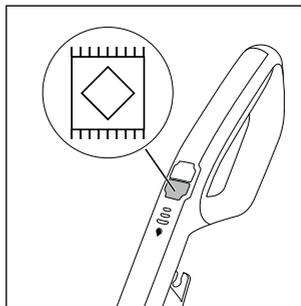

Fig. 17
- ◆ Press the carpet switch  **13** to switch the appliance on (see fig. 17). The LED on the carpet switch  **13** lights up blue.
- ◆ Press the carpet switch  **13** again to switch the appliance off (see fig. 17).